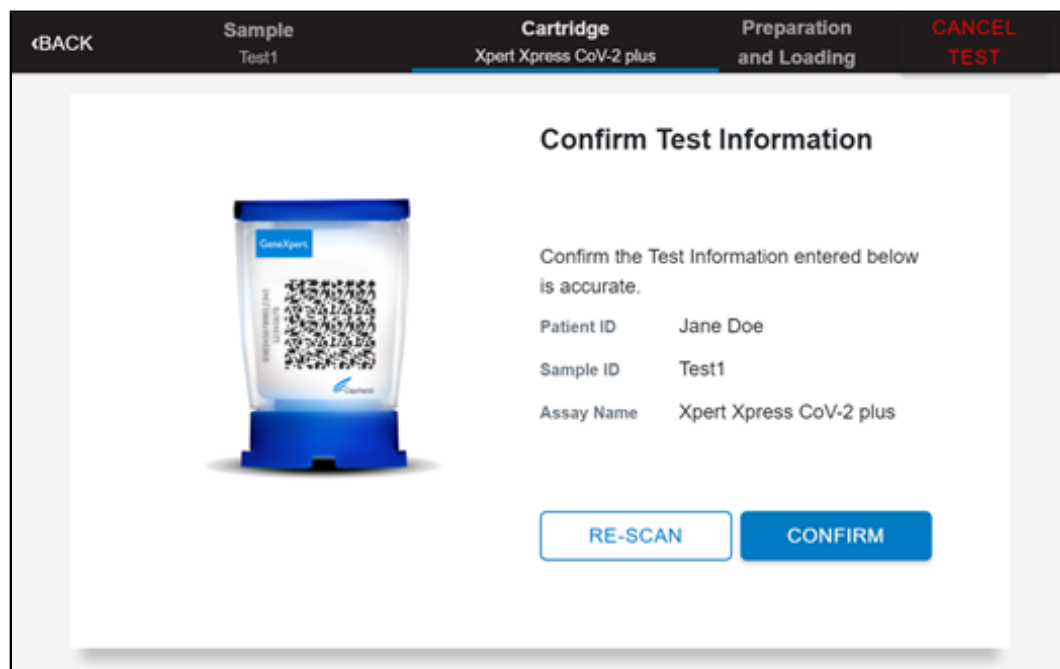

Figure 17. Confirm Test Information Screen
5. Verify that the correct cartridge has been scanned and that the assay name matches the name of the assay on the cartridge (see Figure 17).